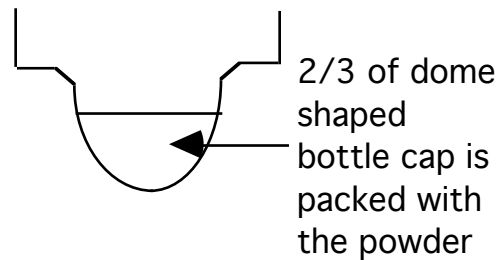

Fig. 1
- 2) Use the powder bottle **cap** as a measuring scoop. Pack **2/3** of the dome shaped cap with powder (Fig. 1) and dispense it on the lower right corner of the glass slab (find it in section C of the 2nd drawer), and another full cap on the upper right corner of the slab.